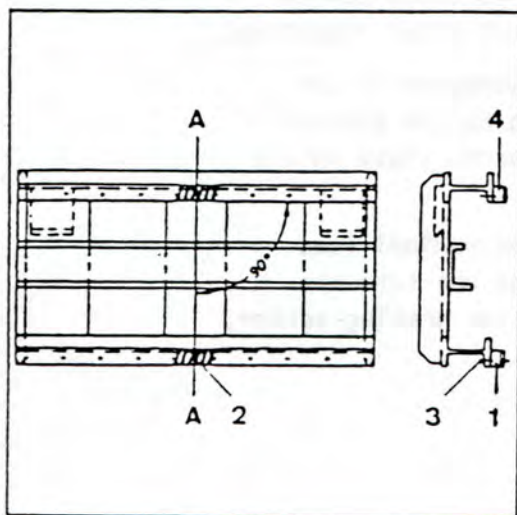

Fig. 14
- Center the lower rack (fig. 14/1) on the center pin (fig. 14/2), aligning it parallel to the double T-rail of the frame and tighten the fixing screws (fig. 14/3) evenly to a torque of 80 Nm.
- Fit the upper rack (fig. 14/4) in the same way as the lower rack, taking care to insure that both racks are aligned exactly parallel to one another.
Use a back square to insure that the tips of the teeth of the upper and lower racks are within ± 1 mm of perfect alignment with one another at "A" on fig. 14.